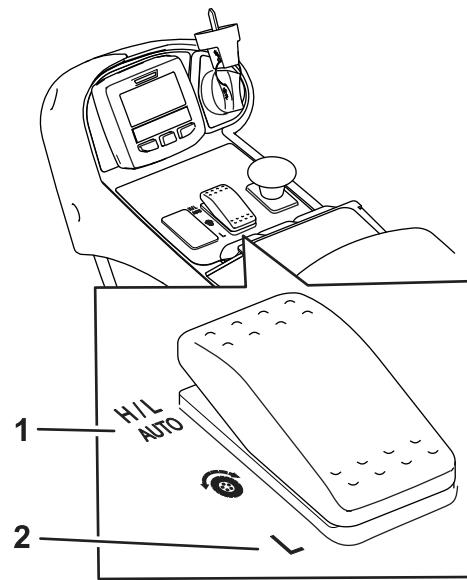
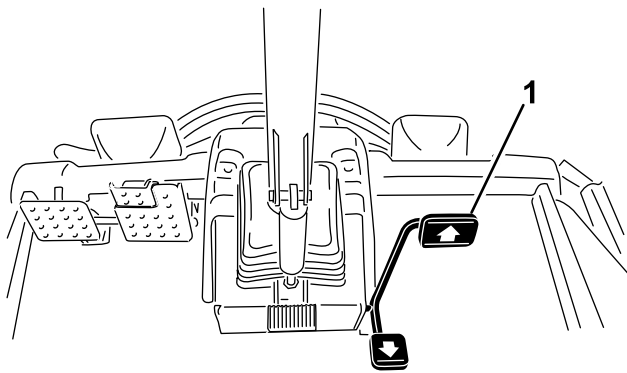

Figure 27
Figure 28
- Under normal operating conditions, this machine is intended to operate in the H/L AUTO position on the speed range switch (Figure 27). This position allows the machine to automatically switch between low and high speed ranges, depending on whether the machine is being used for mowing or transporting.
- When you select the Low position on the speed range switch (Figure 27), the machine will always
This machine is equipped with 2 traction speed ranges; low and high. The speed range switch allows you to select the following positions (Figure 27):
This feature allows the ability to set the maximum speed of the machine when you push the pedal fully forward (Figure 28). You can set a separate speed for the low range and high range (Figure 27).